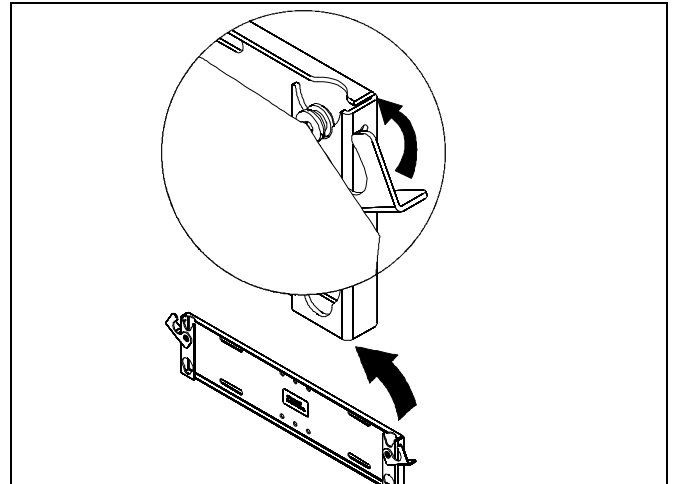

Figure 14
- Close latching flag to secure speaker to speaker bracket. (See Figure 14)